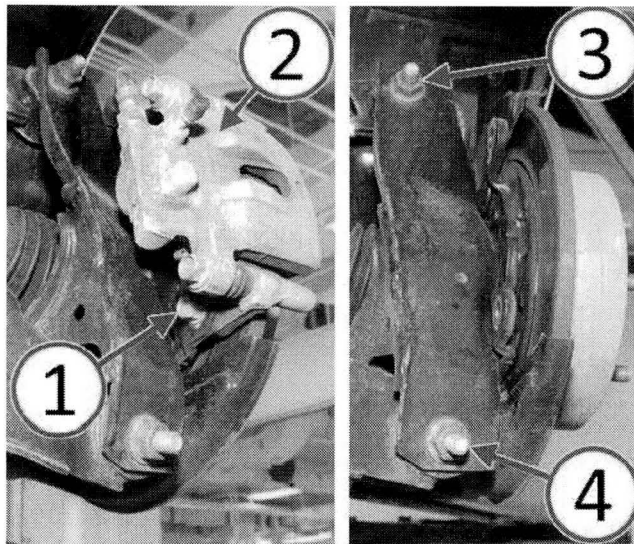

Fig. 1 Remove Rear Brake Caliper
3. Remove and discard the two bolts (1) securing the disc brake caliper adapter to the brake backing plate (Fig. 1).
4. Secure the brake caliper (2) out of the way (Fig. 1).
5. Remove and discard the nuts (3, 4) securing the upper and lower control arms to the trailing link (Fig. 1).